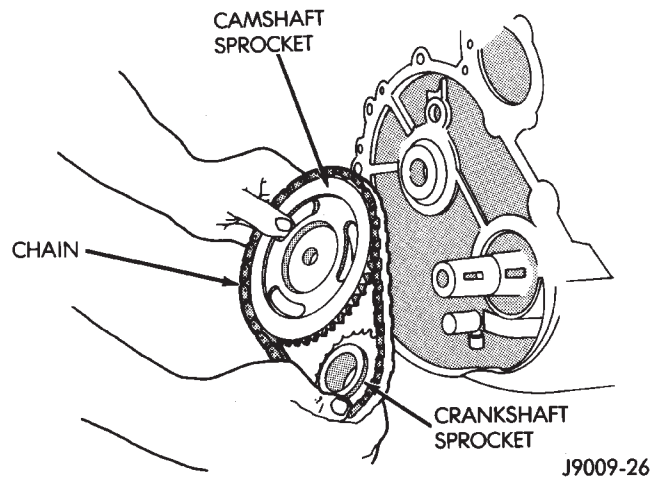

Fig. 7 Camshaft and Crankshaft Sprockets and Chain
- (7) Remove the oil slinger from the crankshaft.
- (8) Remove the camshaft retaining bolt and remove the sprockets and chain as an assembly (Fig. 7).
- (9) To replace the timing chain tensioner, the oil pan must be removed.